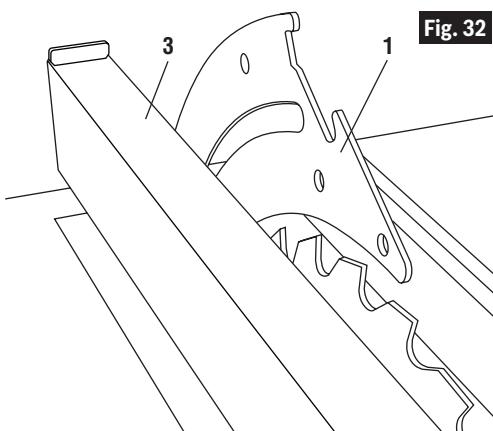

Fig. 32
just touches the tips of the saw teeth. Lock the rip fence and make sure the blade at the front and back is still touching the rip fence (Fig 32).
3. Place the rip fence **3** on the left side of the table. Carefully move the rip fence against the blade so that the rip fence is parallel to the blade and just touches the tips of the saw teeth. Lock the rip fence and make sure the blade at the front and back is still touching the rip fence (Fig. 32).